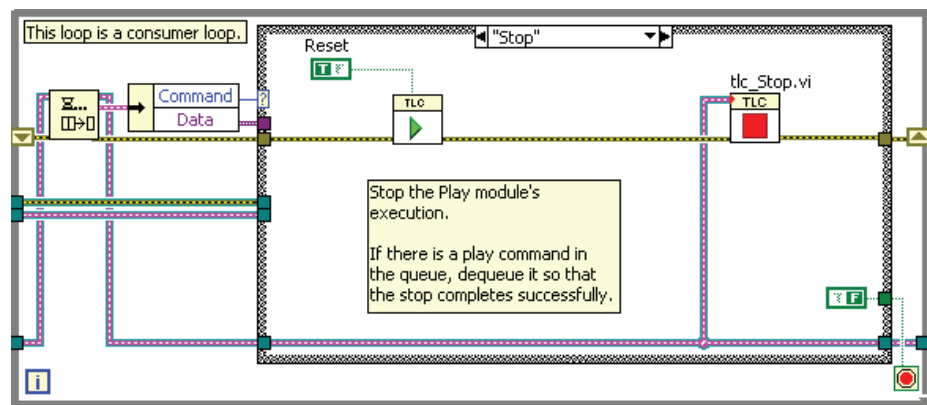

Figure 7-29. Consumer Stop Case
4. In the consumer loop of the TLC Main VI, modify the Stop case as shown in Figure 7-29. This case should stop execution of the cue list and enable the user interface controls. Use the following items: